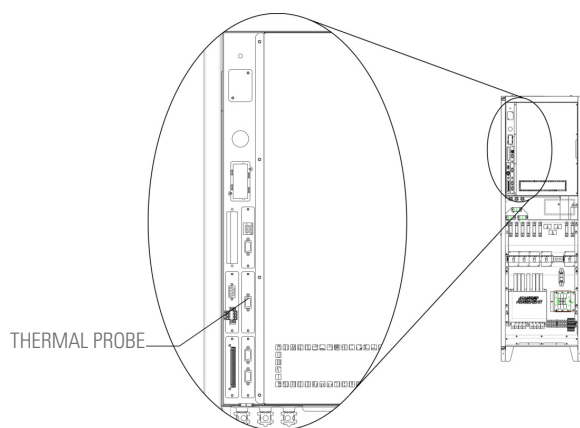
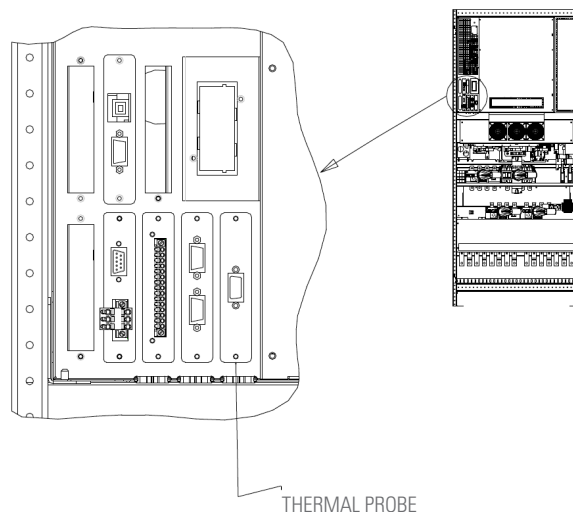
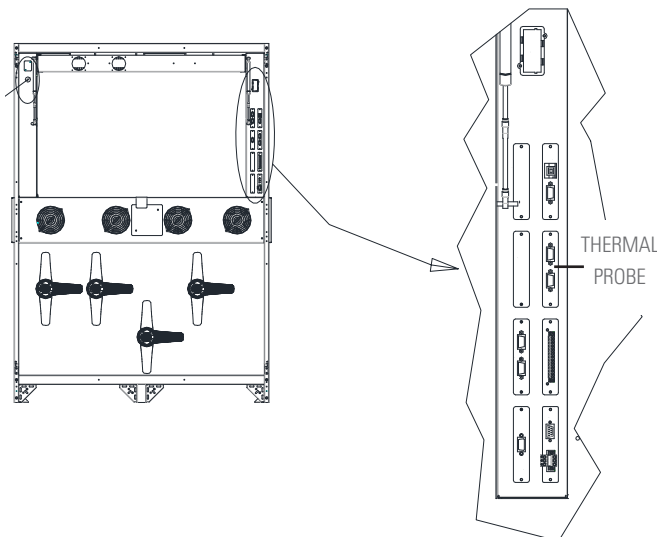

Fig. 7. Thermal probe interface board installation in SLC X-PERT 80-160 kVA
Fig. 8. Thermal probe interface board installation in SLC X-PERT 200-250-300 kVA
Fig. 9. Thermal probe interface board installation for SLC X-PERT 400 kVA
- Connect the thermal probe to the interface board connector, Fig. 7, Fig. 8 and Fig. 9.